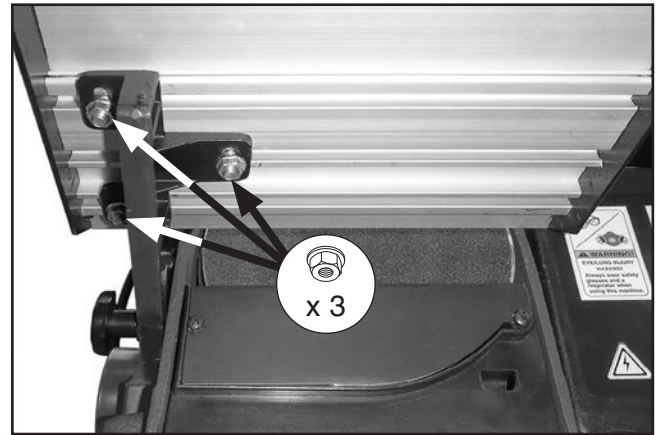

Figure 34. Work table alignment nuts.
4. Loosen flange nuts shown in **Figure 34**.